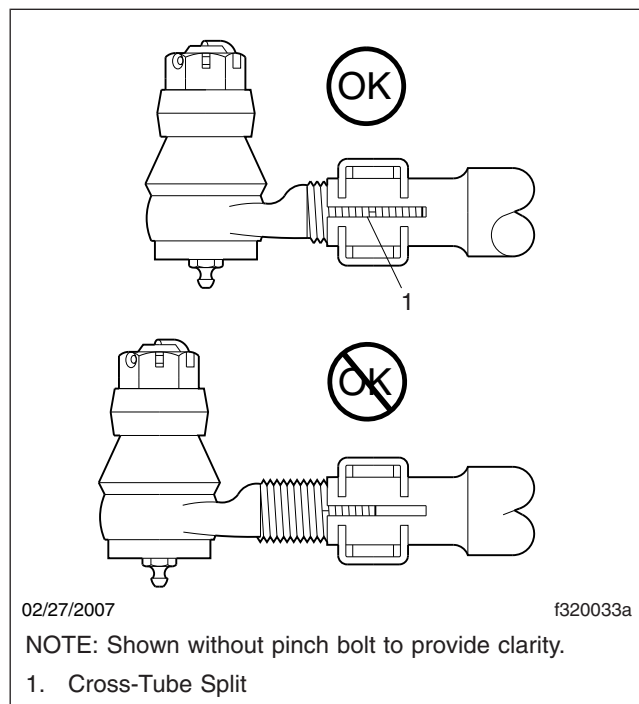

Fig. 2, Tie-Rod End Adjustment
2. The threaded portion of the tie-rod end assembly must be inserted all the way into the cross-tube split for adequate clamping. See Fig. 2. Replace the components if this cannot be done. For in-